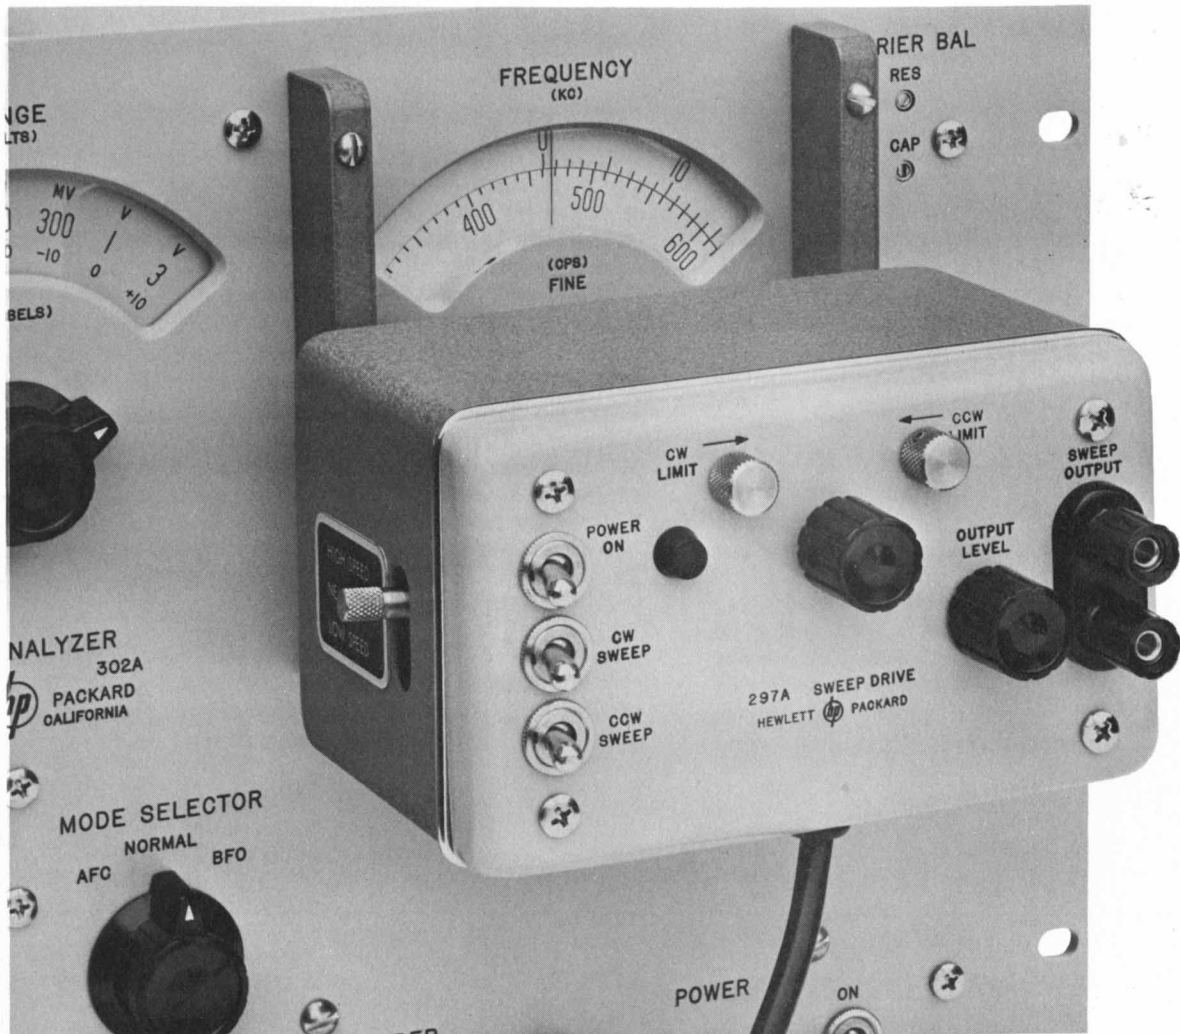

Figure 2-1. Model 297A Mounted on 302A
- c. Counting from right to left on the 302A, remove second and third screws nearest the top of the 302A. These screws will be the two nearest the FREQUENCY dial (see figure 2-1).